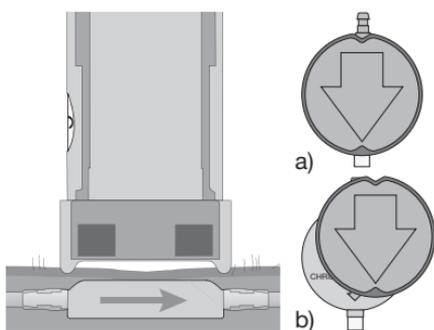

Fig. 14: Measuring the pressure setting a) correctly, b) incorrectly
2. The verification tool is positioned centrally on the valve. The marking on the instrument has to point towards the proximal catheter (leading to the ventricle). The button is pushed and the pressure setting is read (fig. 14).